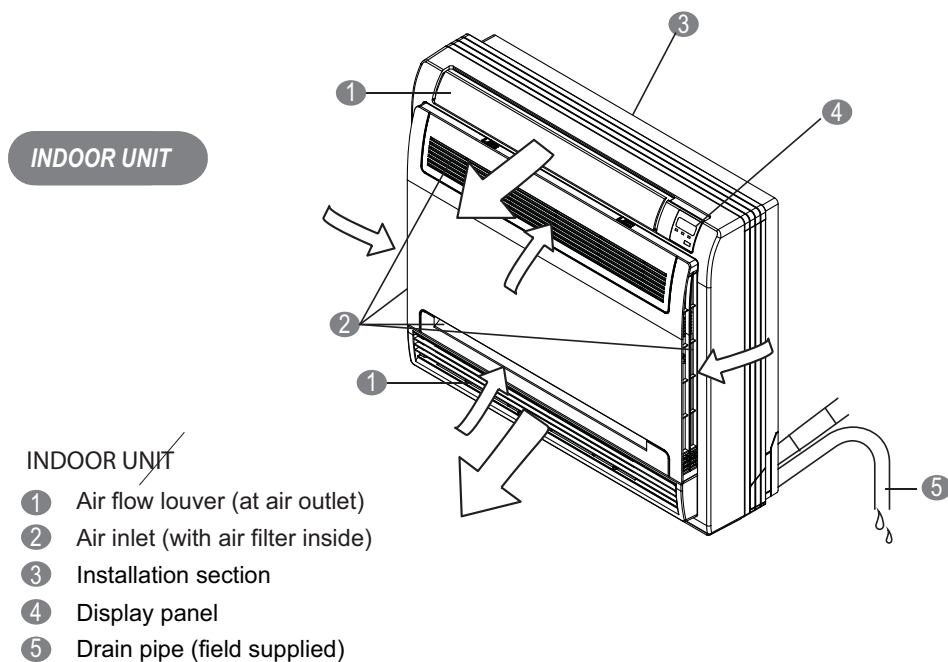

Fig. 1 — Parts List (Console Size 12)
- The parts list (Fig.1) is a sketch. Different models may be slightly different.